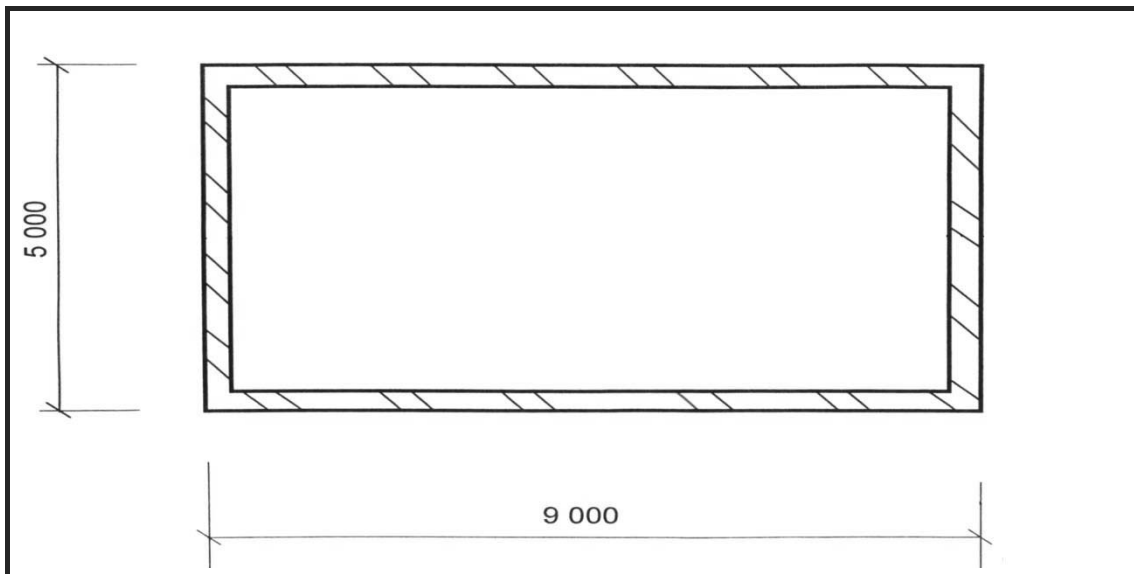

FIGURE 3.2
3.2 FIGURE 3.2 below shows the floor plan of the foundation walls of a single room.